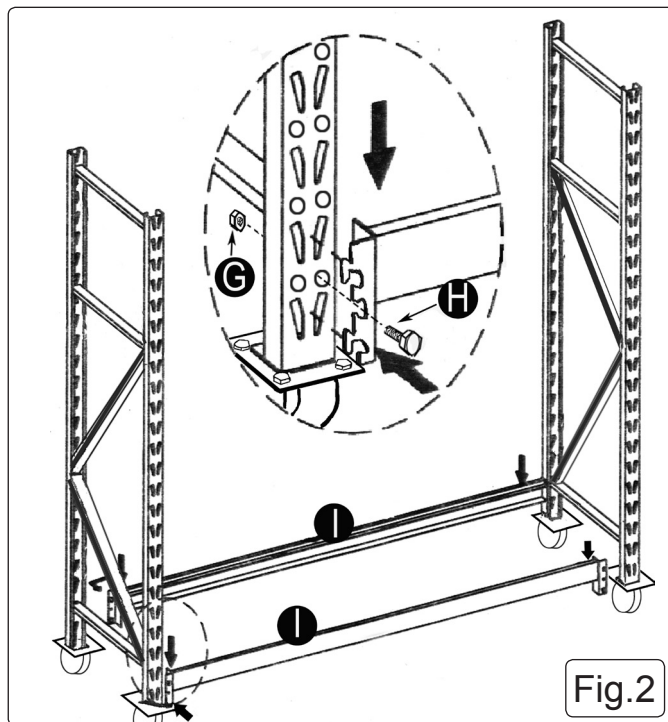

Fig.2
4.3 Fitting the cross beams. Refer to Fig.2.